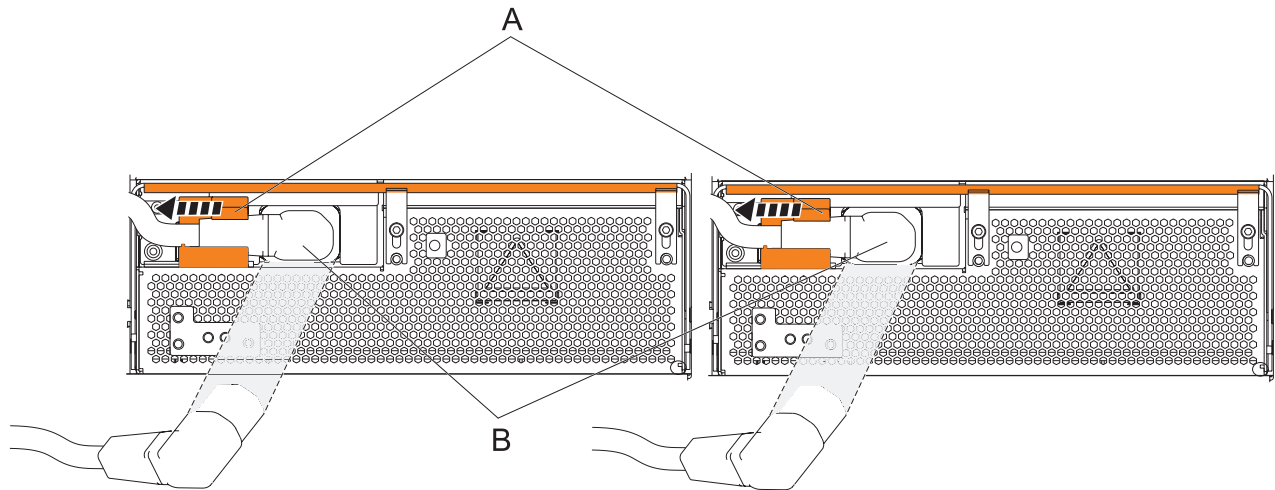

Figure 77. Disconnecting the OCA power cords
- a. Slide the power cord holders (**A**) to the left, located on the front of both the OCAs. See Figure 77 on page 85.